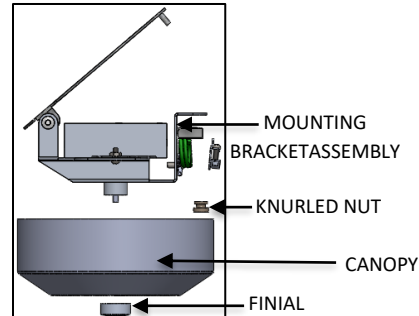

FIG. 7 – MOUNTING PLATE DIS-ASSEMBLY
2. Unscrew the KNURLED NUT securing MOUNTING PLATE to driver MOUNTING BRACKET. Swing driver mounting bracket down and out of the way as shown below in FIG. 7.